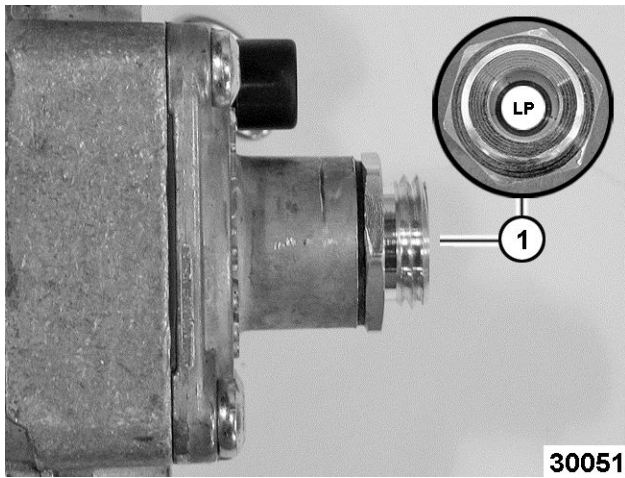

Fig. 80
- If the incoming pressure to the valve is between 11" WC and 14" for Propane gas and the manifold pressure is not maintaining 10" WC, and the cap (1, Fig. 80) is correctly positioned, replace the valve.
1, Fig. 80	Cap position for propane gas (stamped LP).